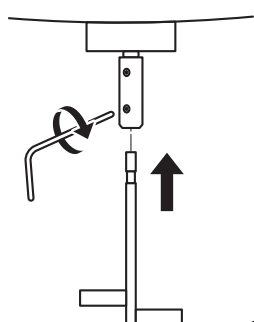

fig. 2
- Insert it through the hole of the pivot shaft until it reaches the maximum position (s. fig. 2).